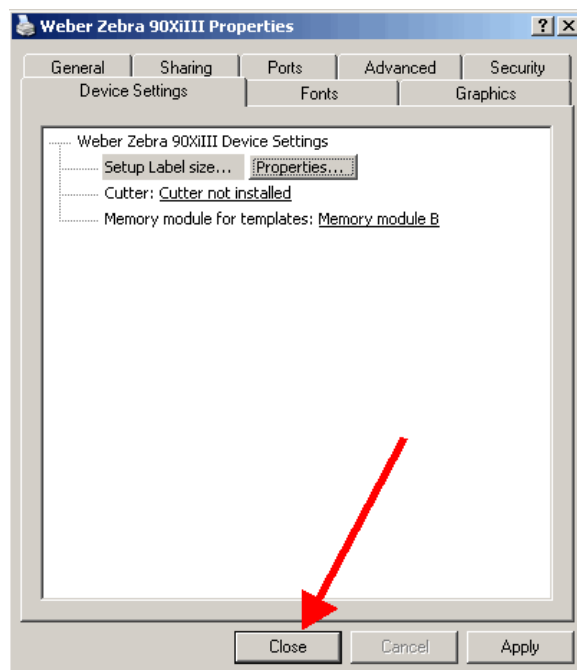

Figure 31
35. Click Close to finish setting up your printer. (Figure 31)